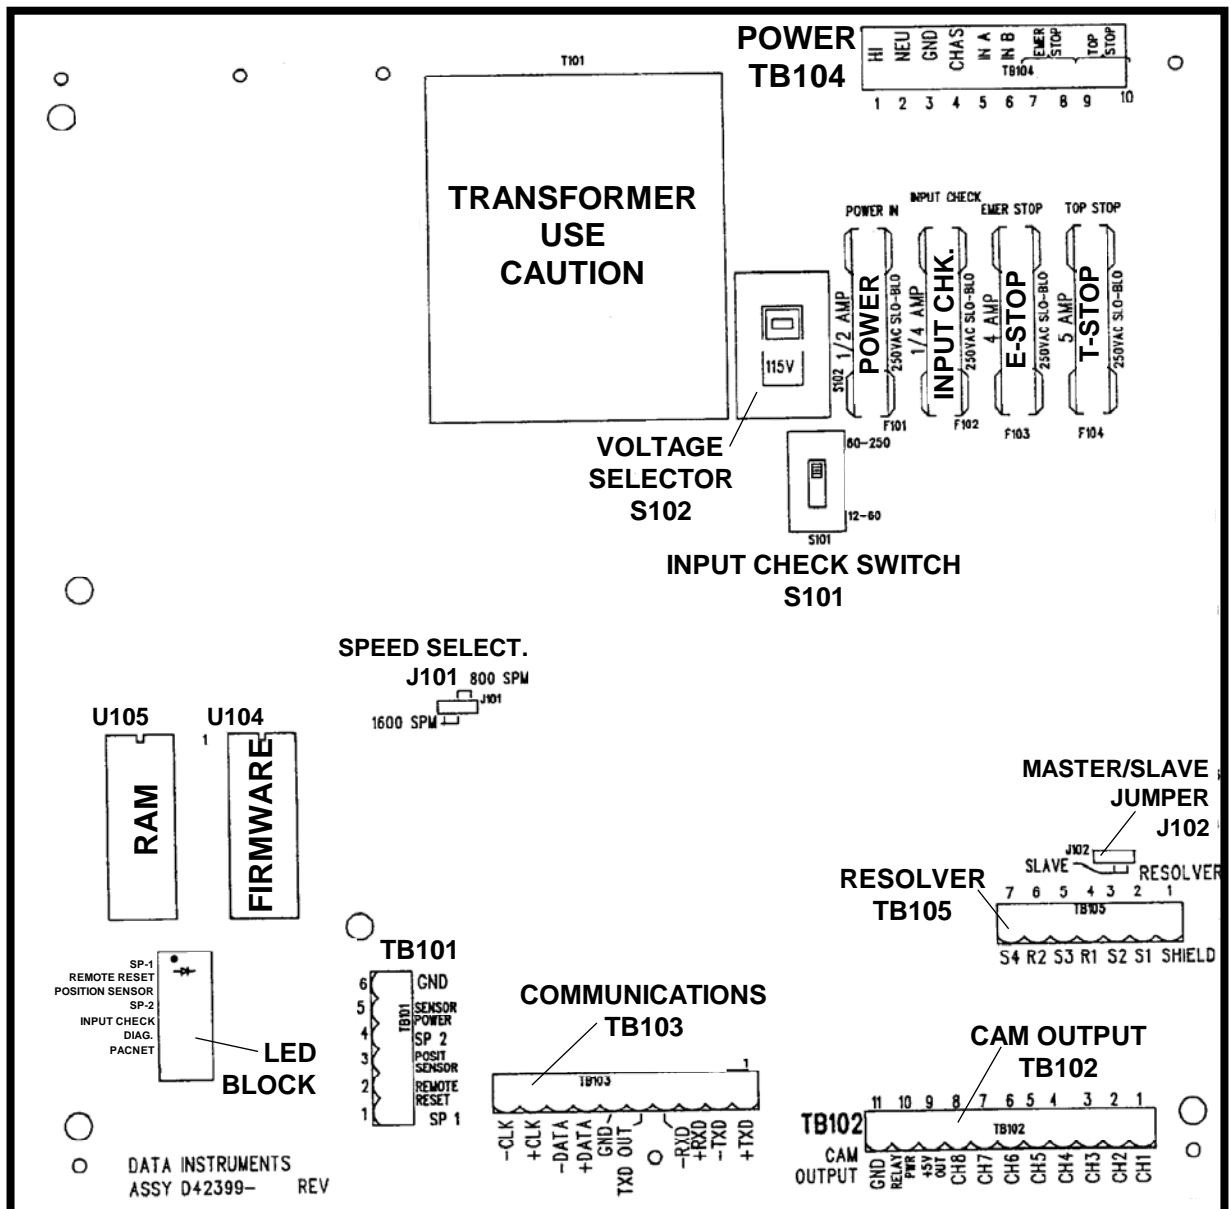
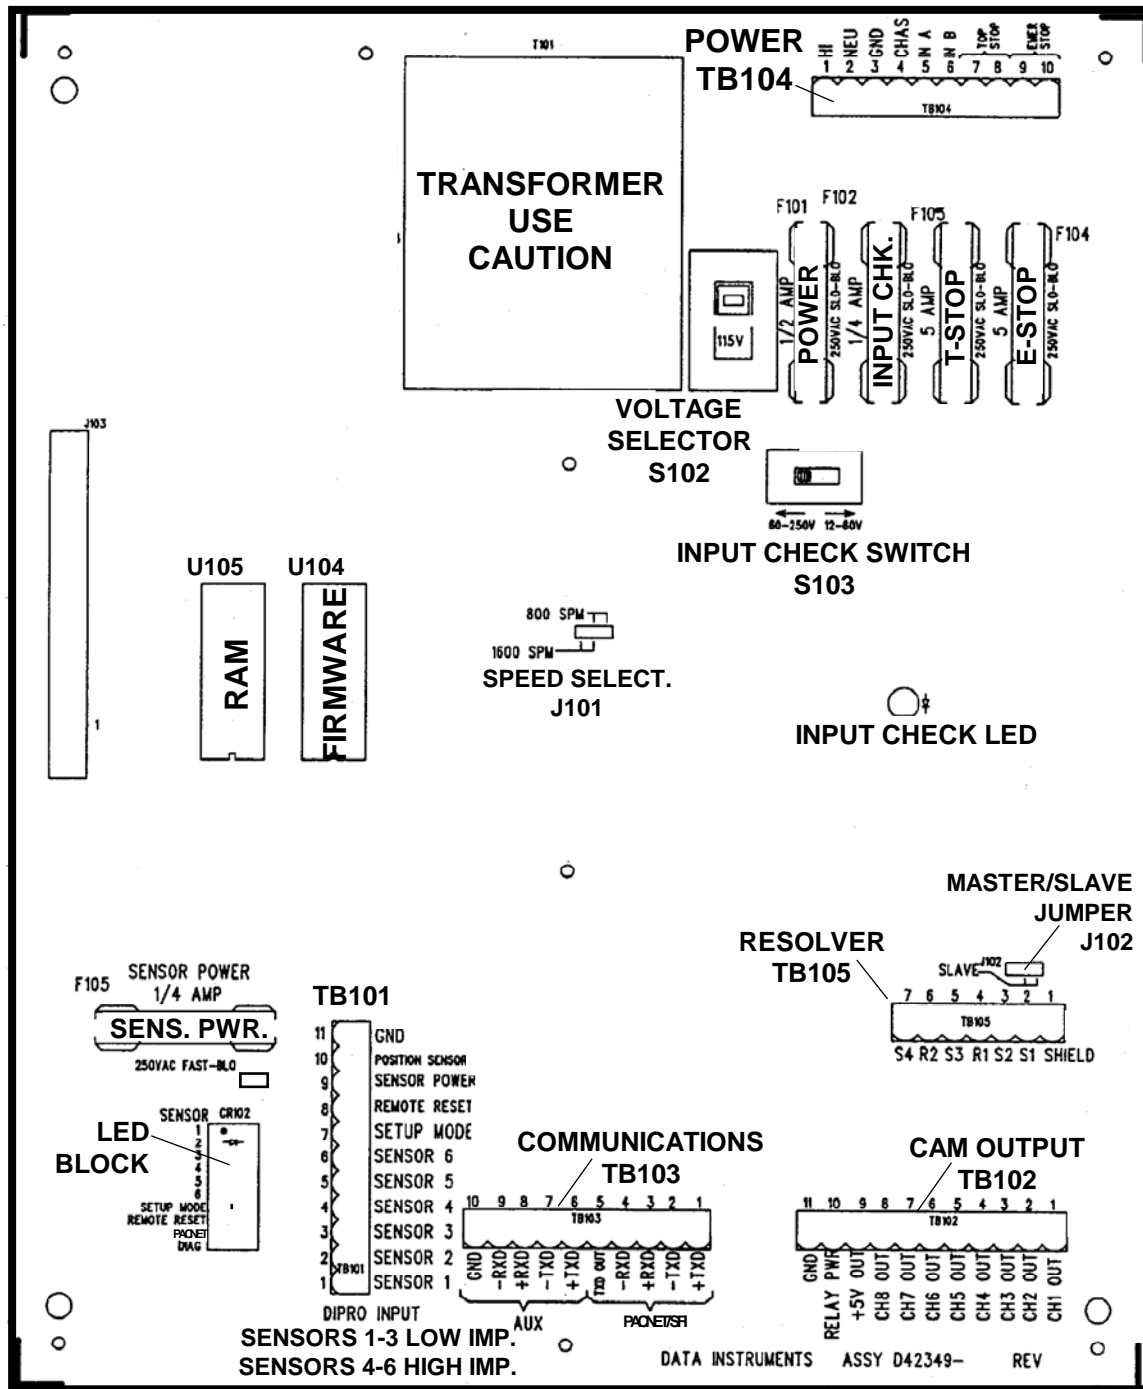

Figure 2-5. Location of components on ProCam 1500 processor board
Figure 2-6. Location of components on DiPro 1500 processor board
3. Locate the firmware chip for that product, located at U104 on either the ProCam 1500 or DiPro 1500 processor boards (refer to Figure 2-5 or Figure 2-6 respectively). Notice that this firmware chip has a label on it.
2. Locate terminal TB103 on the 1500 unit's processor board (see Figure 2-5 for ProCam 1500 or Figure 2-6 for DiPro 1500). Also find the RS-232 port on your feed.